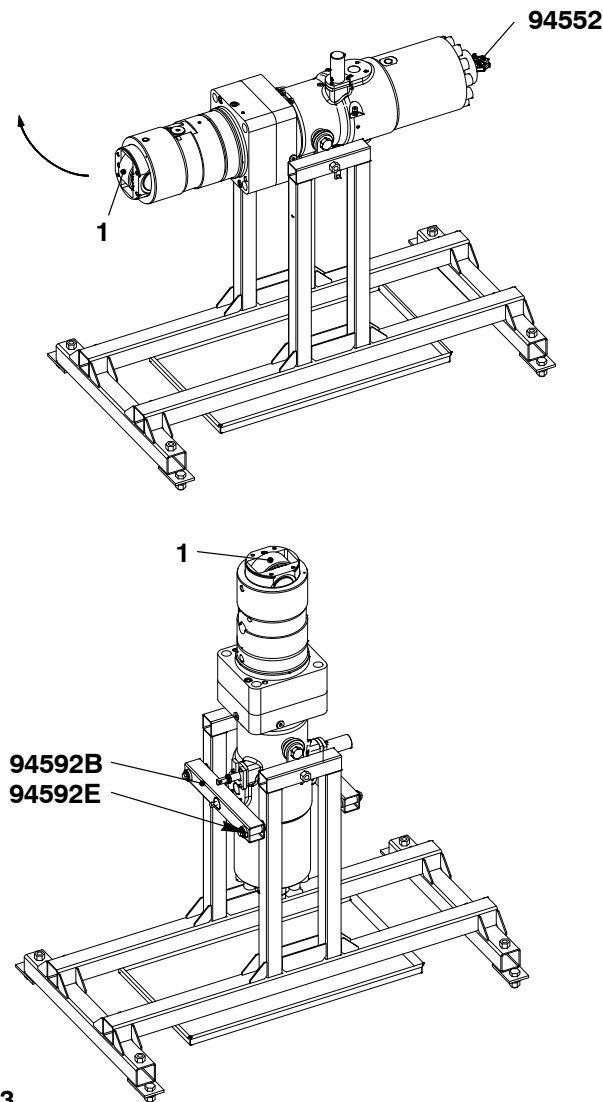
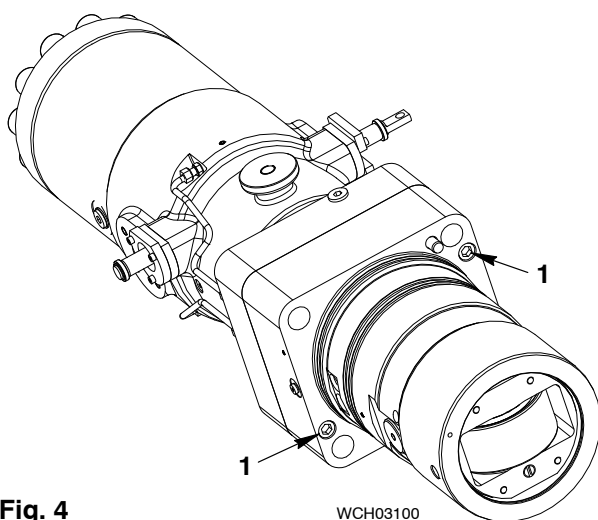
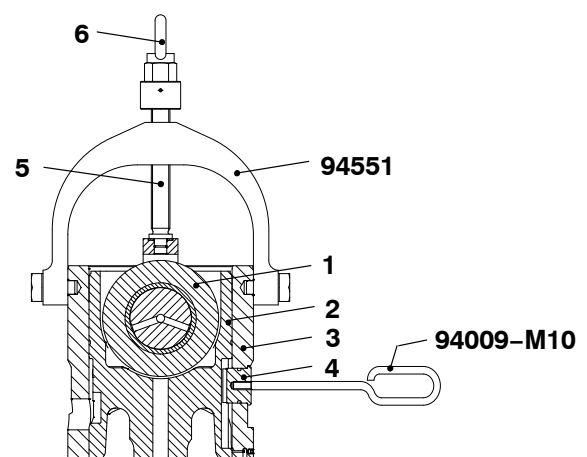

Fig. 3
Fig. 4
Fig. 5
- 1) Remove the screws (94592E, Fig. 3), then remove the two limiters (94592B).
- 2) Turn the fuel pump until the roller (1) points up.
- 5) Loosen equally the two Allen screws (1, Fig. 4).
- 6) Remove the two Allen screws (1).
- 7) Lubricate the spindle (5, Fig. 5) with lubrication paste Molykote G-Rapid Plus.
- 8) Attach the spindle press (94551) to the bottom housing (3).
- 9) Turn slowly clockwise the eye bolt (6) and the spindle (5) to push the roller (1) into the bottom housing.
- 10) Use the handle (94009-M10) to remove the guide pin (4).